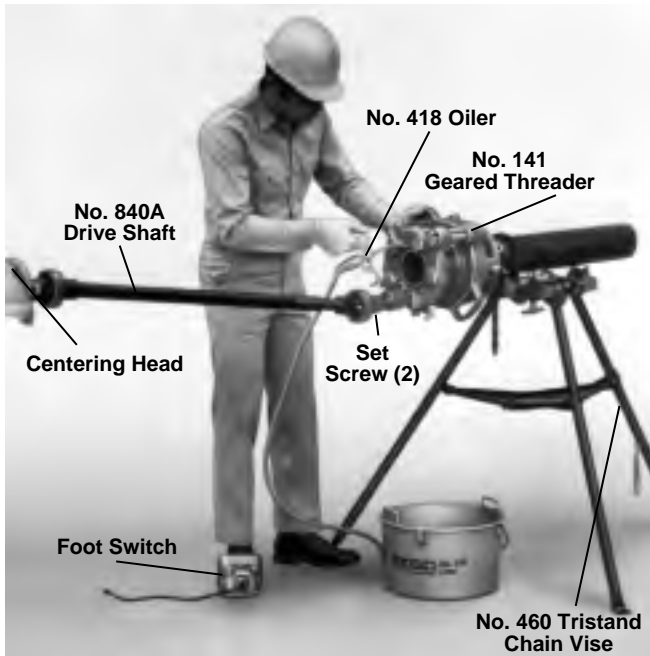

Figure 18 – Threading Pipe using No. 840A Universal Drive Shaft
Refer to Figure 18.
6. Loosen two (2) set screws (Figure 18) and remove universal drive shaft from threader.